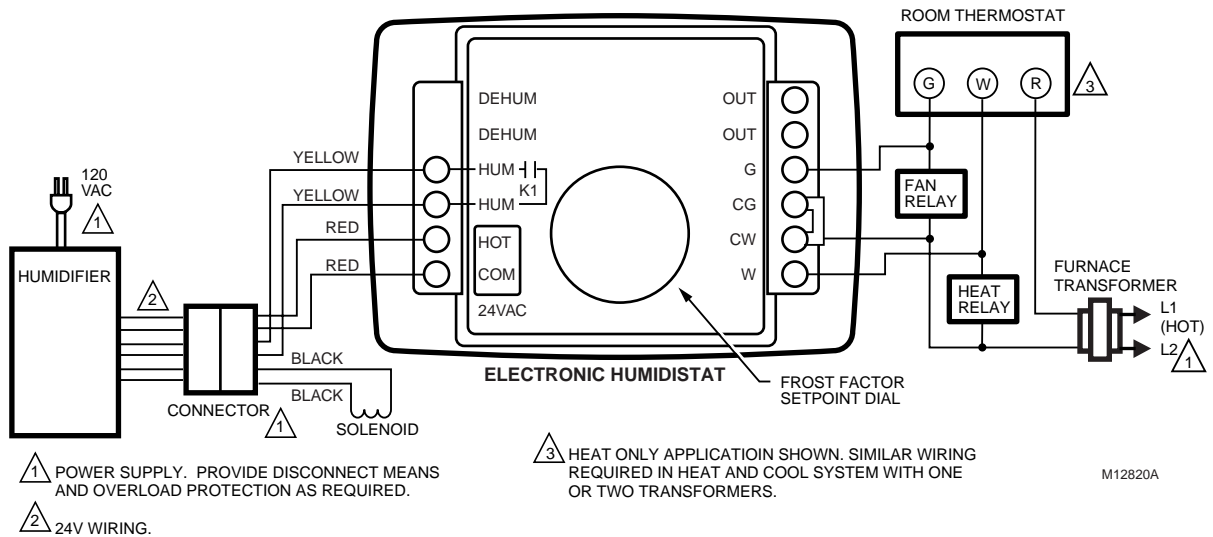

Fig. 9. Typical wiring diagram for humidifier using H1008 Automatic Humidity Control.
1. Connect the two red and two yellow wires to the electronic humidity control as shown in Fig. 9.